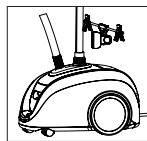

Figure 6
6. Clip the Lower Hanger on the Telescoping Pole (Figure 6).